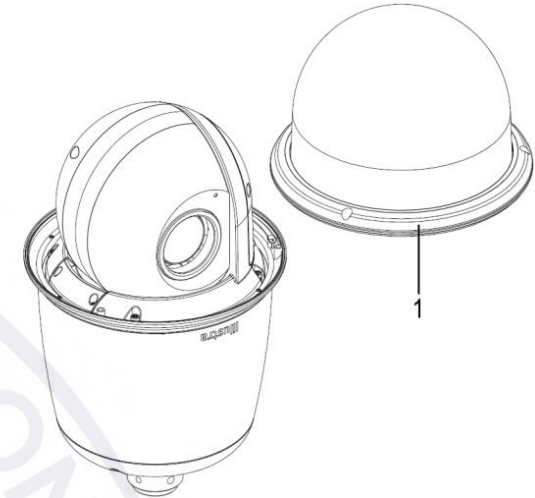

Figure 3
2. Carefully remove the bubble unit (1) (Figure 3).